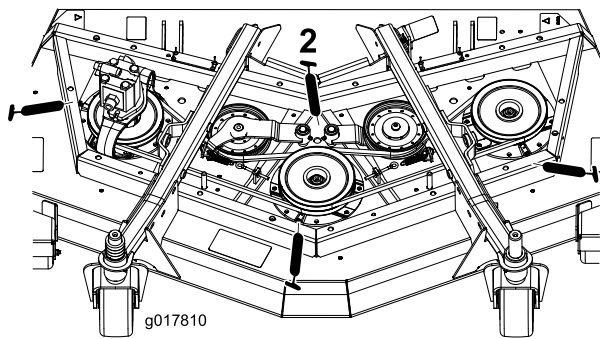

Figure 37
- Spindle-shaft bearings (3) (Figure 37)
- Idler-arm-pivot bushings (2) (Figure 37)